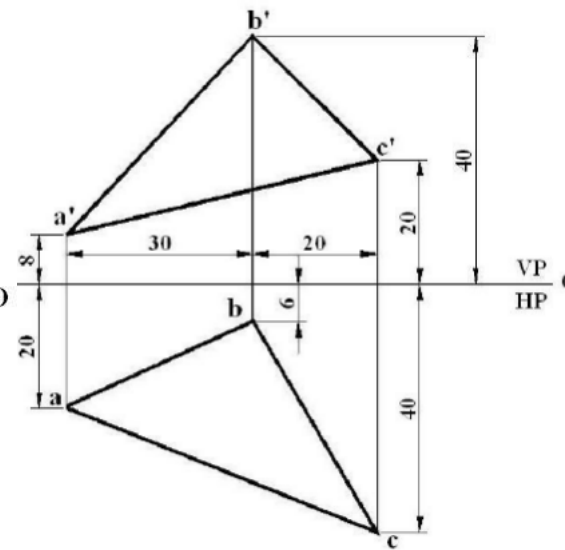

Figure P4.5
5. Determine the true shape of the triangular plane **ABC** shown in **Figure P4.5** and its inclination with the HP. Also draw its true shape.